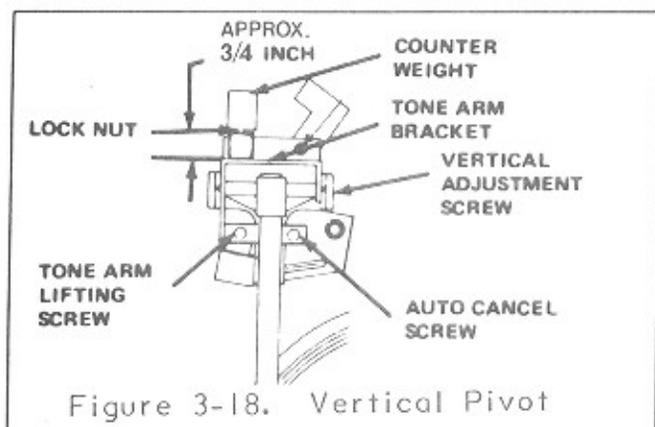

Figure 3-18. Vertical Pivot
1. The stylus force should be three to four grams. If a gram gage is not available, an approximate force can be set by adjusting the distance between the tone arm weight and the tone arm bracket. This distance should be $3/4$ inch for 3-1/2 grams stylus force (See Figure 3-18.).